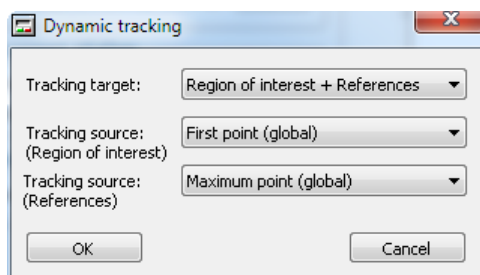
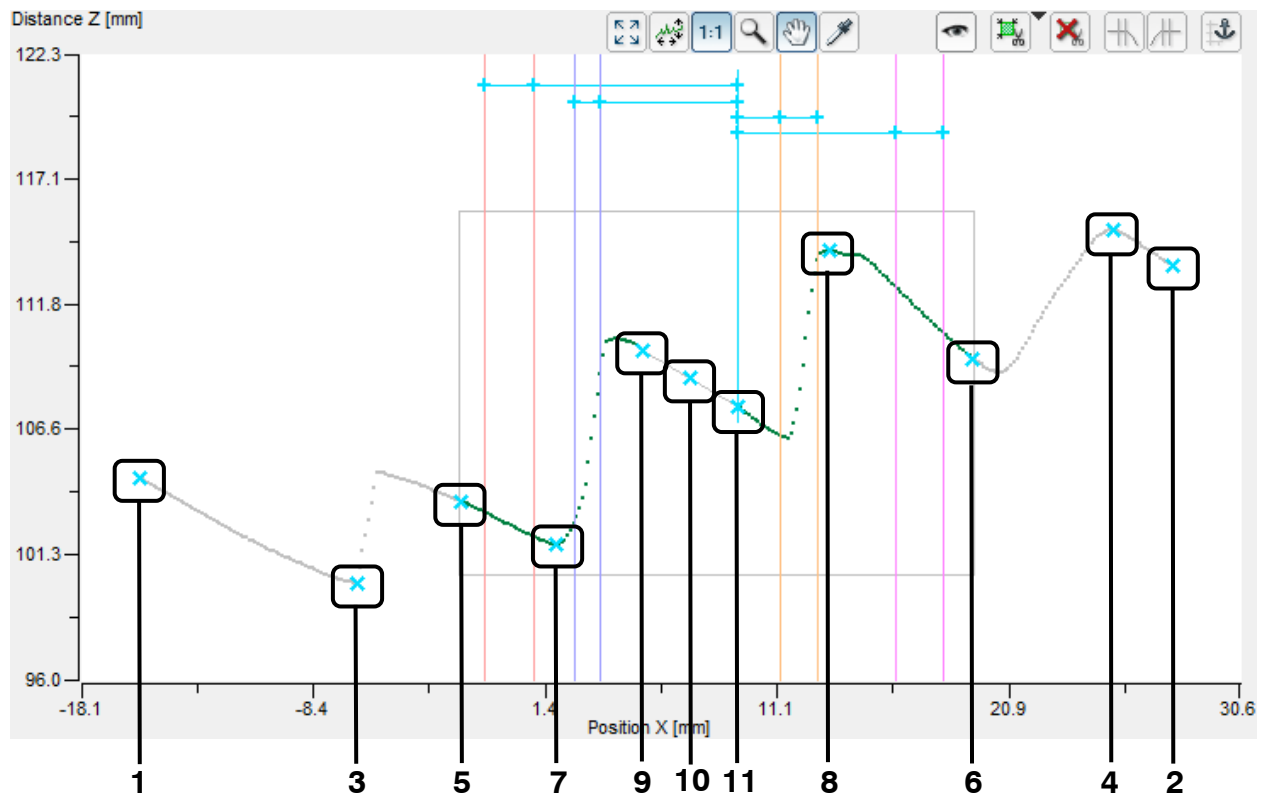

Fig. 3.50: "Dynamic tracking" dialog box
Fig. 3.51: Possible candidates for the anchor points
The "Dynamic tracking" dialog is displayed (see Fig. 3.50). The potential candidates for the anchor point are highlighted in turquoise in the 2D-display (see Fig. 3.51).
- **Tracking source (Region of interest):** Select the anchor point for cutting out. The following options are available (see Fig. 3.51):
- **First point (global):** The first point of the Profile (1).
- **Last point (global):** The last point of the Profile (2).
- **Minimum point (global):** The minimum point of the Profile (3).
- **Maximum point (global):** The maximum point of the Profile (4).
- **Tracking source (References):** Select the anchor point for line fitting. The following options are available (see Fig. 3.51):
- **First point (roi):** The first point inside the range for cutting out (5).
- **Last point (roi):** The last point inside the range for cutting out (6).
- **Minimum point (roi):** The minimum point inside the range for cutting out (7).
- **Maximum point (roi):** The maximum point inside the range for cutting out (8).
➡ In the "Dynamic tracking" dialog (see Fig. 3.50), select the ranges to be tracked and the desired anchor points and confirm with "OK".